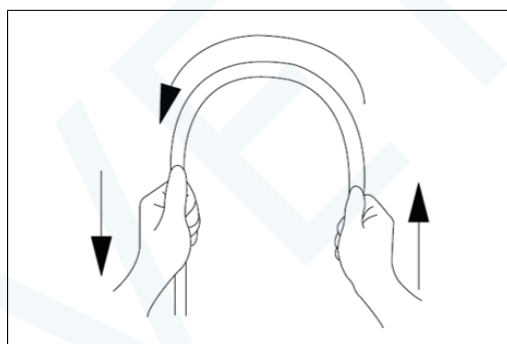

Figure 3.3
5. Bend the endoscope insertion section into a semicircle with both hands, then move your hands in the direction indicated by the arrow (Figure 3.3) to confirm that the entire bending section can be smoothly bent into a semicircle with good flexibility.